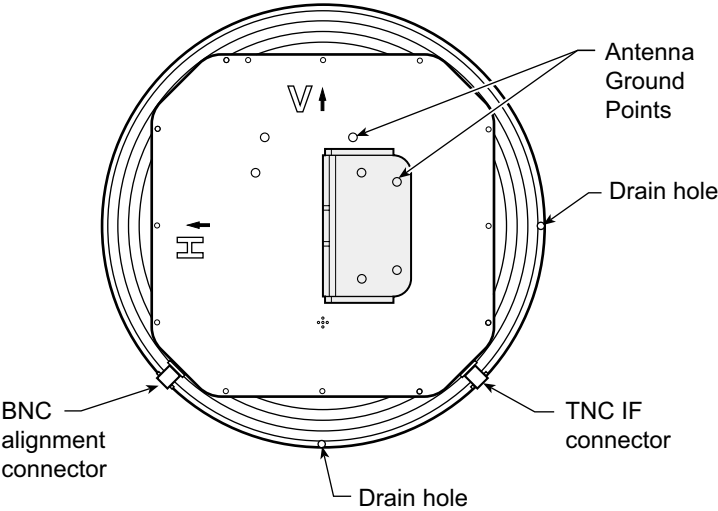

Figure 6-4. Mounting Vertically Polarized ODU
- For a vertical polarized antenna, mount the unit with its two cable connectors facing down and the “V” is up as shown in Figure 6-4.
- Line up the bolts in the antenna with the four holes in the mounting bracket as shown in Figure 6-4.